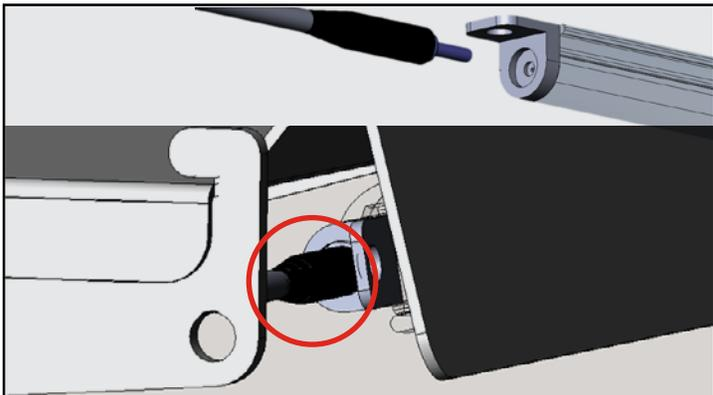

Fig. 3. Insert the power cord into the LED module.
3. Insert the power cord into the LED module. See fig. 3.